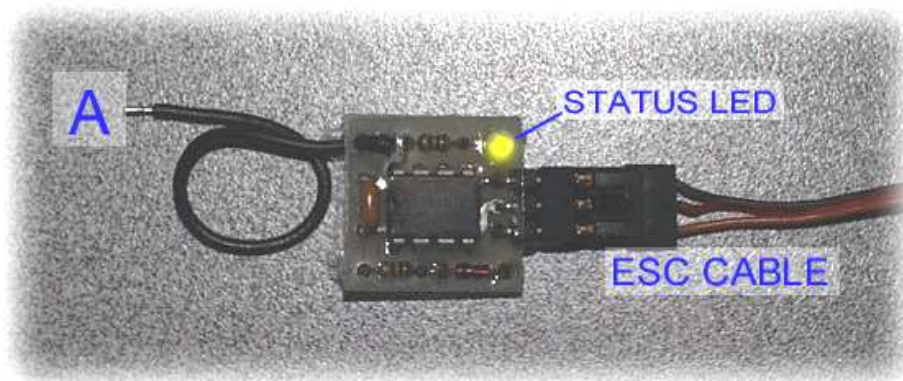

FIGURE1
2. PowerZone plugs into the ESC's 3-wire cable (see Figure 1). Note that the ESC's brown wire is at the top, near the Status LED.
3. Disconnect the two wires from the existing brushed motor. Identify the negative lead (typically the black motor wire). Solder this wire to the bare lead on the PowerZone board (see 'A', Figure 1). Use electrical tape or heat-shrink tubing to insulate the soldered connection. Cut off the other unused motor wire and insulate the end.
If you find that the LED correctly blinks at power up, but the motor does not run, then please double check the orientation of the ESC's 3-pin cable. Figure 1 shows the correct direction.